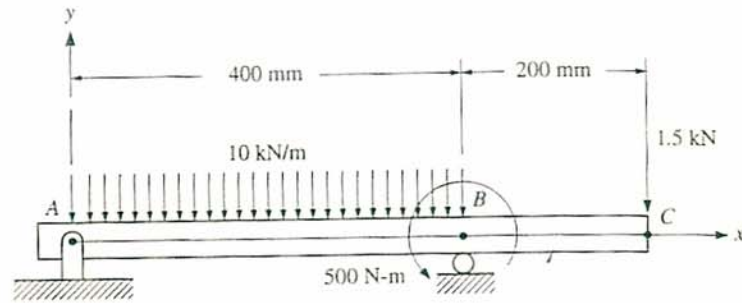

Figure 4
4. Using the SINGULARITY function, determine the shear force and bending moment equations for the beam shown in Figure 4 and plot the results.